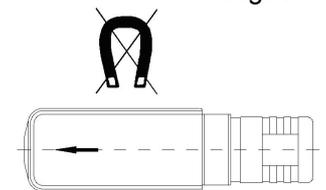

Fig. 2a
- ↯ Please make sure that there are no external magnetic fields in the immediate vicinity of the flow switch, since these can impair device functioning (Fig. 2a).
- ↯ There is an arrow on the flow switch. Ensure that this arrow is parallel with the pipe shaft and is facing in the direction of flow during installation (Fig. 2a).